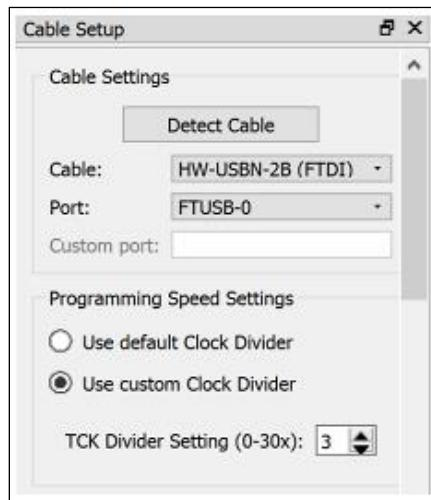

Figure 3.9. TCK Frequency Setting
- If you get verification error while dumping the .bit file, try changing the TCK frequency to be greater than 4. The TCK Divider setting option can be found from the right-click menu of the Radiant Programmer Window (Figure 3.9).